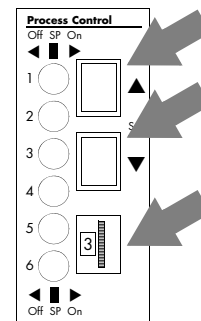

Figure 4-23 Electrometer Module Showing Setpoint Set Buttons and Channel Select Thumbwheel
2. Press and hold the SET button for the direction you wish the setpoint to change; ▲ to raise the setpoint; ▼ to lower it (see Figure 4-23).